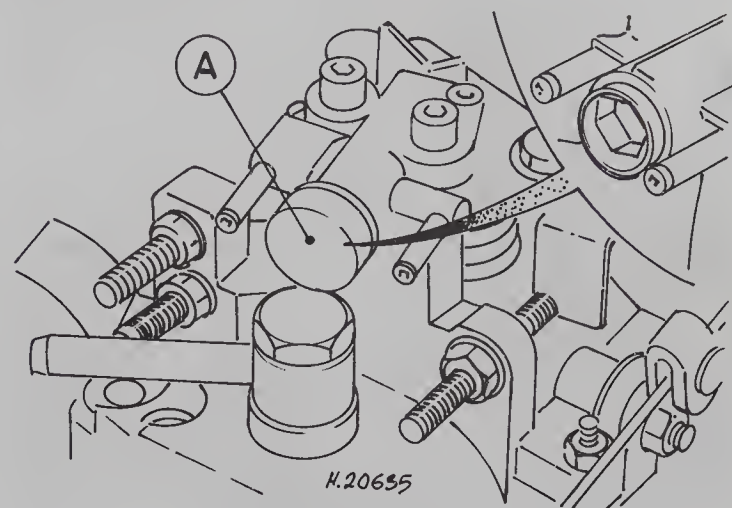

Fig. 8.22 EGR system vacuum regulator valve adjustment screw under tamperproof cap 'A' (Sec 5)
127 If the regulator valve does not behave as indicated, remove the tamperproof cover (A) – Fig. 8.22.